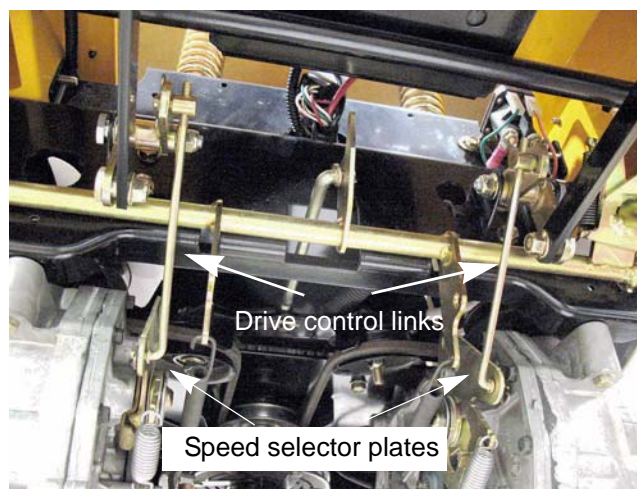

Figure 6.3
3. Remove the hairpin clips that secure the drive control rods to the speed selector plates. See Figure 6.3.